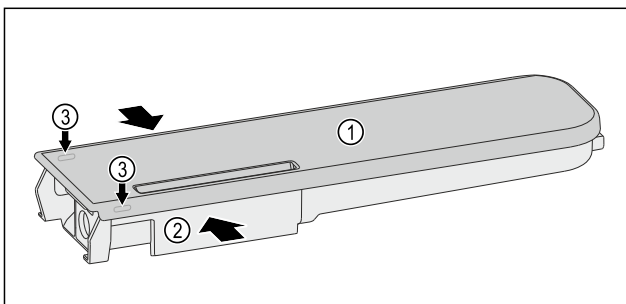

Fig. 144
- Squeeze the water tank Fig. 144 (2) and carefully lever the cover Fig. 144 (1) over the latches Fig. 144 (3) pull it up.
- Slightly move the cover Fig. 144 (1) back and forth and remove it from the top.